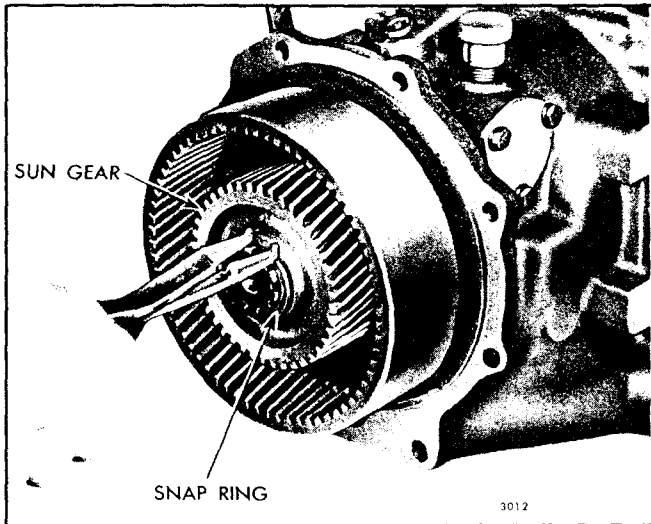

Fig. 17 - Removing or Installing Reduction Gear Sun Gear Snap Ring from/on Input Shaft (2.5:1 and 3:1 Ratio)
- a. Remove the reduction gear sun gear snap ring from the reduction gear input shaft with a pair of snap ring pliers J 5586 as shown in Fig. 17. Then slide the sun gear off the end of the shaft.